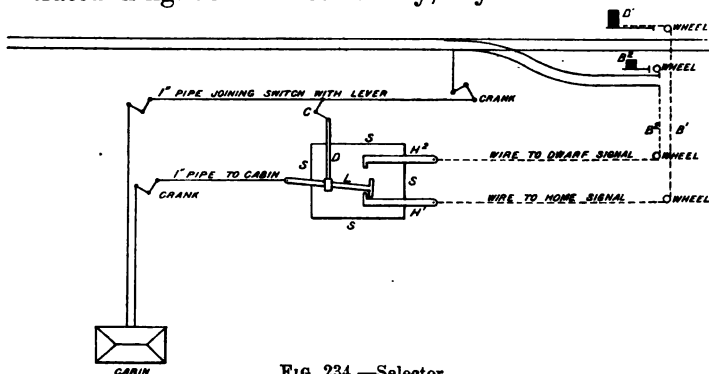

FIG. 234.—Selector.
same lever and its essential parts are illustrated in fig. 234. Theoretically, any number
and 2 regulate the selectors for 3 signals (A) in one direction and for two signals (B) in the other direction, yet a "2-way selector" is used in each case. This is so because although there are three routes, signal B2 is cleared whichever of the switches 1 or 2 is set for the divergent route. In consequence of this rule the selector of fig. 234, is a "1-way." A box,
**Selector.** S, fig. 234, contains two hooks, H, (three in a two-way, four in a three-way, etc.) which form the connection with the signal wires, a lug, L, (only one lug is used for all "ways") and a driving rod, D, (a separate driving rod is used for each switch and the number in a selector therefore corresponds exactly with the size, 1-way, 2-way, etc., of the selector). The crank, C, connects D with the line of pipe which joins the switch with its lever in the machine, and D, consequently acts in accordance with the motion of the switch lever. Through a hole in D, L is loosely passed so that although it is moved by D laterally, nothing prevents the longitudinal motion of L. As the drawing is made, the switch stands for the main track and L is in connection with H1 (the main-track signal hook). If the switch should be reversed by moving its pipe to the left, D would force L into connection with H2 and L then being moved to the left would result in lowering B2.